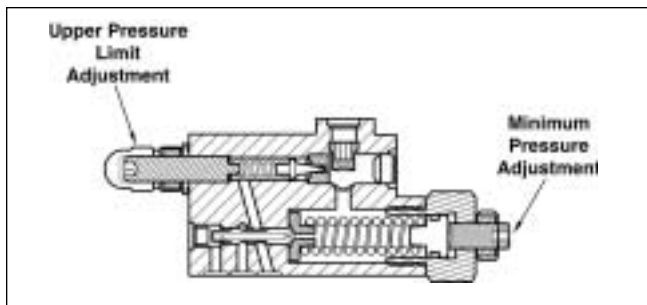

Figure 11
5. Open the vent valve, and set the "minimum pressure adjustment screw" (see Fig. 11) to 250 ± 25 psi (17 ± 1.7 bar).
6. Close the vent valve. Set the "upper pressure limit adjustment" to the maximum desired compensator setting. See Figure 11 for adjuster location.